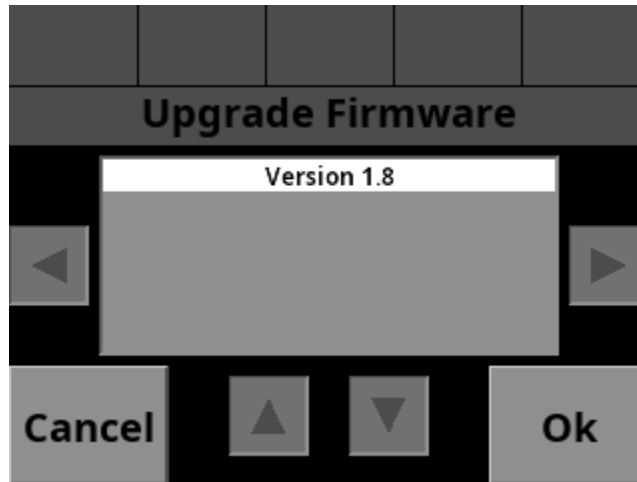

Figure 14: Upgrade Firmware screen with File Selector
- STEP 4: Once the 5100ex has found the upgrade files, an upgrade file selection menu will appear, as shown in Figure 14.